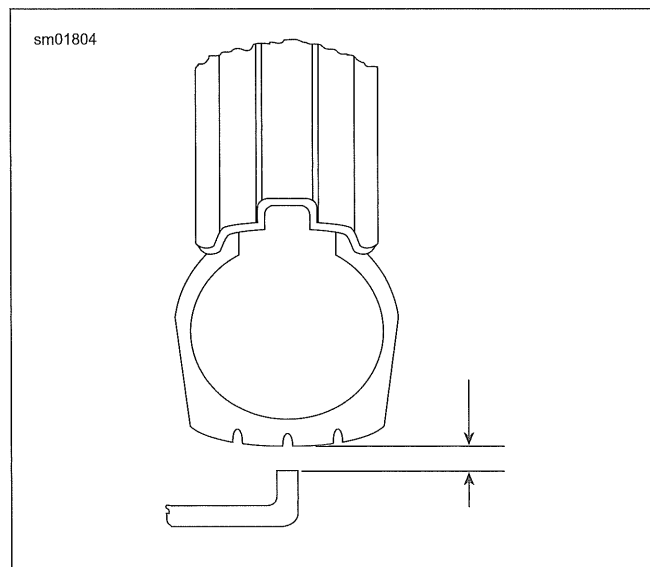

Figure 3-29. Checking Tire Radial Runout
2. See Figure 3-29. Spin the wheel on the axle and measure radial runout at the tread centerline.